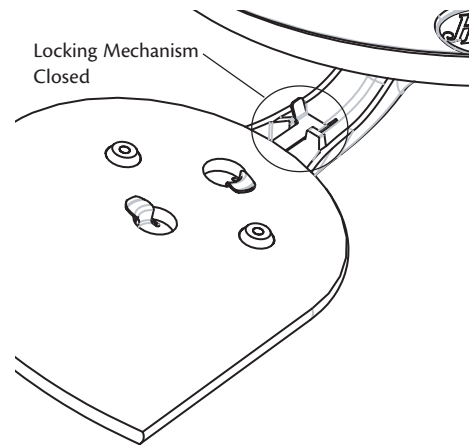

Figure 24 - Installing the blade
2. Align the holes in the blade with the blade iron as shown in Figure 24.